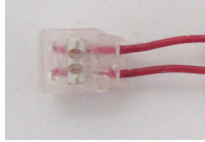

Figure 6: Wires in gel cap
- Insert the wires from each cable end as far as possible into the gel cap. See Figure 6: Wires in gel cap.